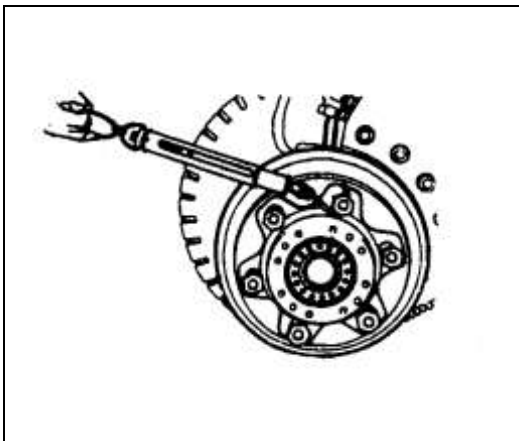

Fig.1-6
- 7) Turn wheel hub back and forth two or three rotations to see if rotation starting torque is within specifications. Rotation starting force: $10\sim 29\text{N}$ (refer to Fig.1-6);